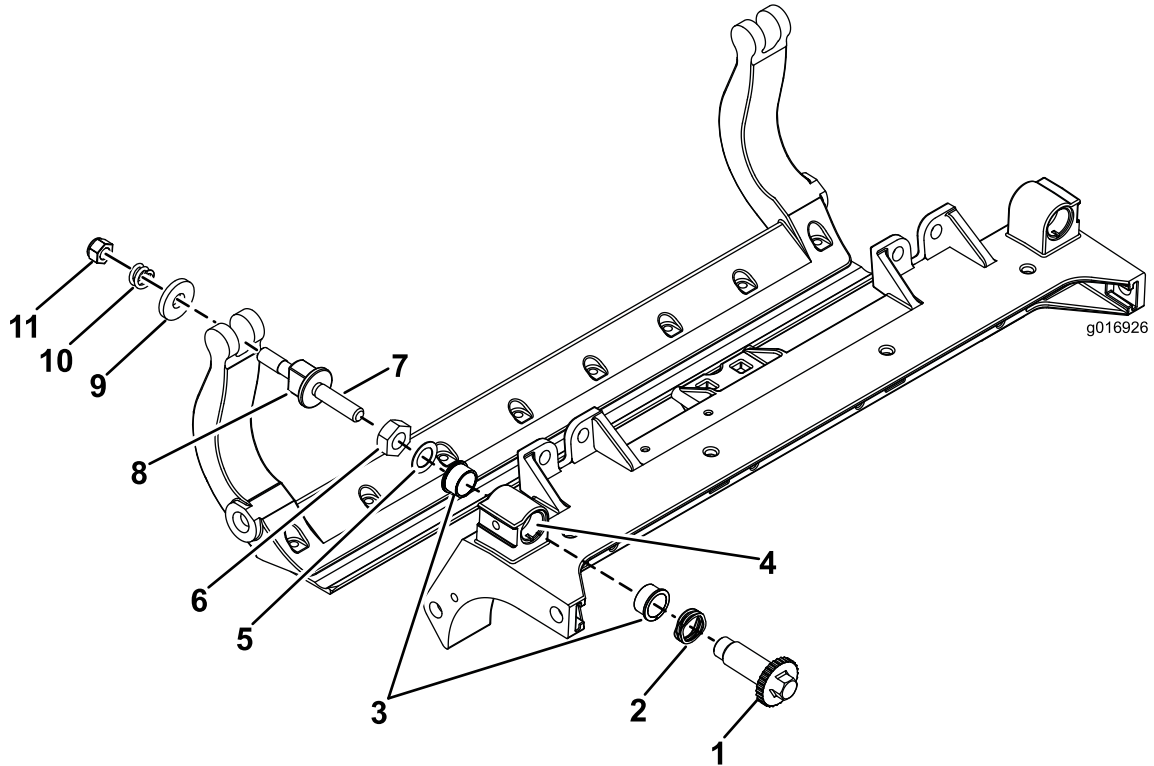

Figure 34
1. Remove all parts (refer to the *Installation Instructions* for the HD DPA Kit and to Figure 34).
2. Apply anti-seize compound to the inside of the bushing area on cutting unit center frame (Figure 34).
3. Align the keys on flange bushings to the slots in the frame and install the bushings (Figure 34).
4. Install a wave washer onto the adjuster shaft and slide the adjuster shaft into the flange bushings in the frame of the cutting unit (Figure 34).
5. Secure the adjuster shaft with a flat washer and locknut (Figure 34).
12. Place a steel washer outside each of the nylon washers (Figure 34).
Note: The washers on the inside may have a gap (Figure 34).
15. Tighten the nut on each bedbar-adjuster assembly until the compression spring is fully compressed, then loosen the nut 1/2 turn (Figure 34).